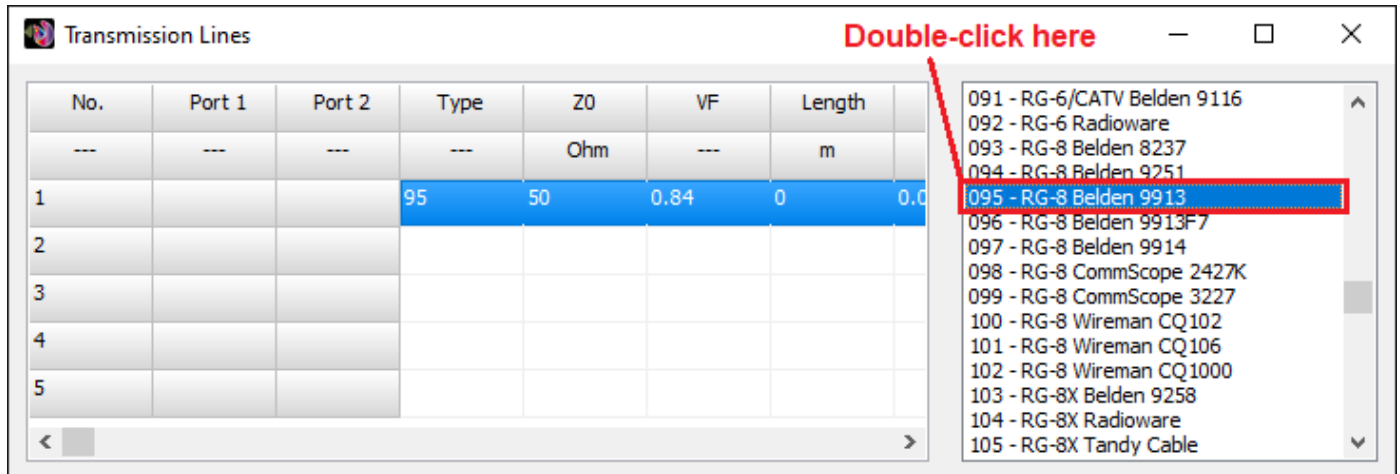

Fig. 3: On the right panel, double-click on the chosen line type to automatically complete the selected row.
- 2. On the right-hand panel, choose a type of transmission line and double-click on your chosen type. The selected row will be automatically completed, Fig. 3.